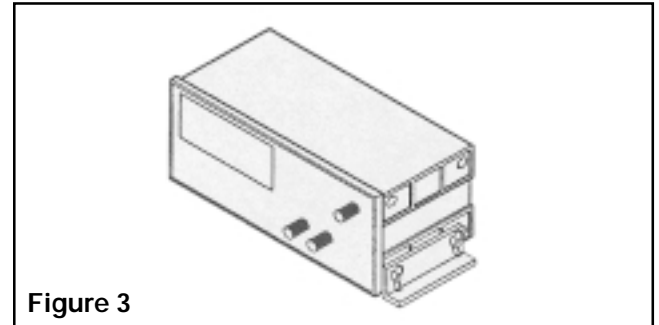

Figure 3
- a. For Shelf Mounting use the two mounting brackets and four wing screws provided (See Fig. 3).